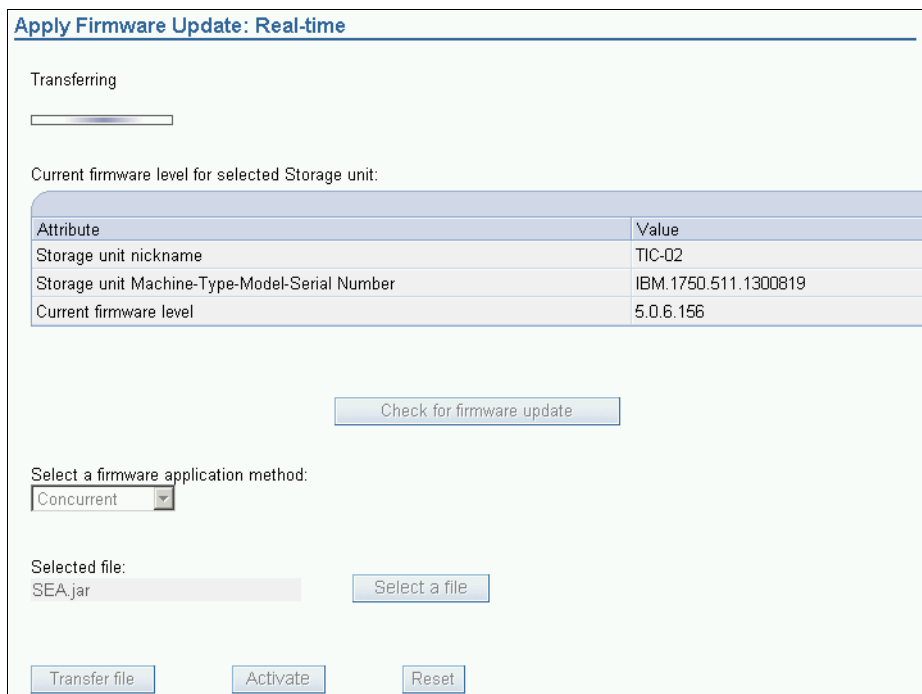

Figure 20-9 Transferring the microcode file to the DS6800 controllers
3. The third step is to transfer the microcode file to both DS6800 controller cards by selecting **Transfer File**. Before transferring the file, verify that the firmware application method is still set to concurrent, as you cannot change this setting after this step. During the ongoing transfer of the microcode to both DS6800 controller cards, an appropriate message is displayed at the top of the window, as shown in Figure 20-9.